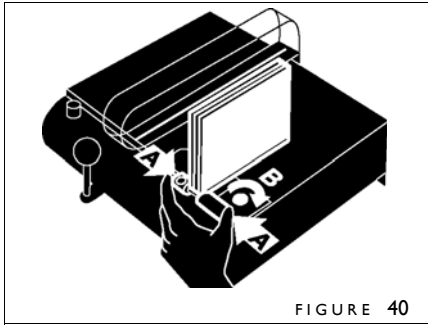

FIGURE 40
2. After it has cooled, place your bound book block between the Book Thickness Rings (figure 40). Push the two rings together (A) and tighten the Book Thickness Locking Knob (B). Remove your book block.